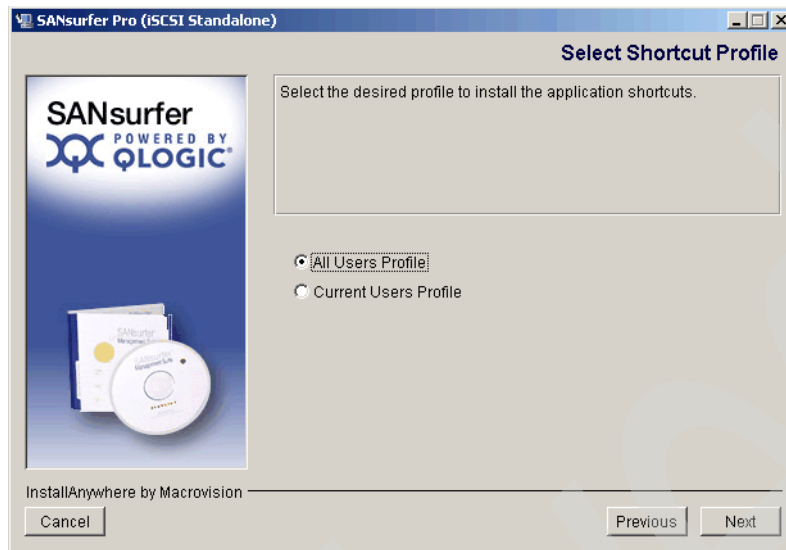

Figure 21-16 SANsurfer installation - Select shortcut profile
9. In Figure 21-16, choose a profile to install the program shortcuts. In this example, we use All Users Profile.